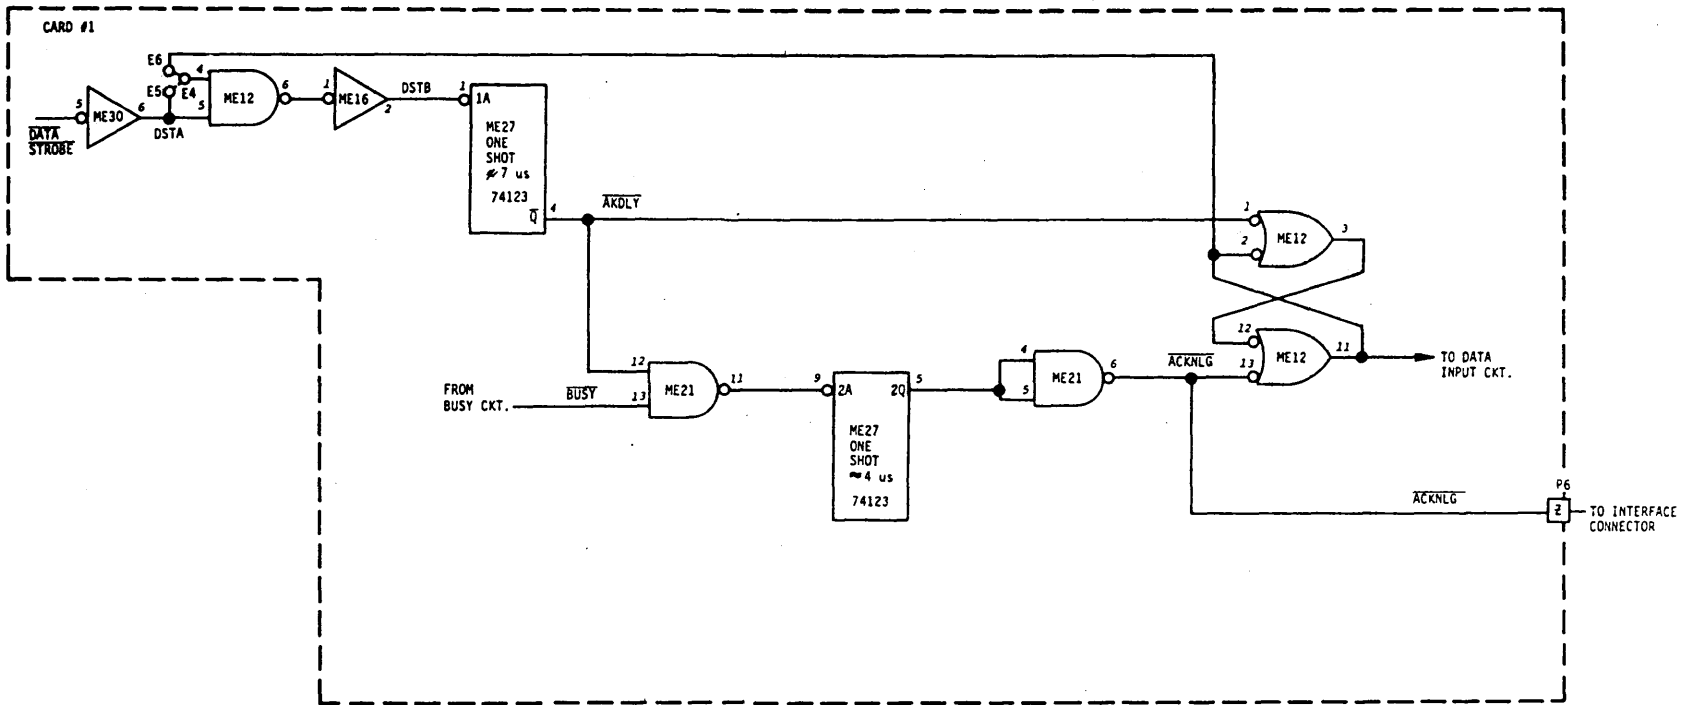

Figure 4-9. ACKNOWLEDGE CIRCUIT
4.4.3 ACKNOWLEDGE (FIGURE 4-9)